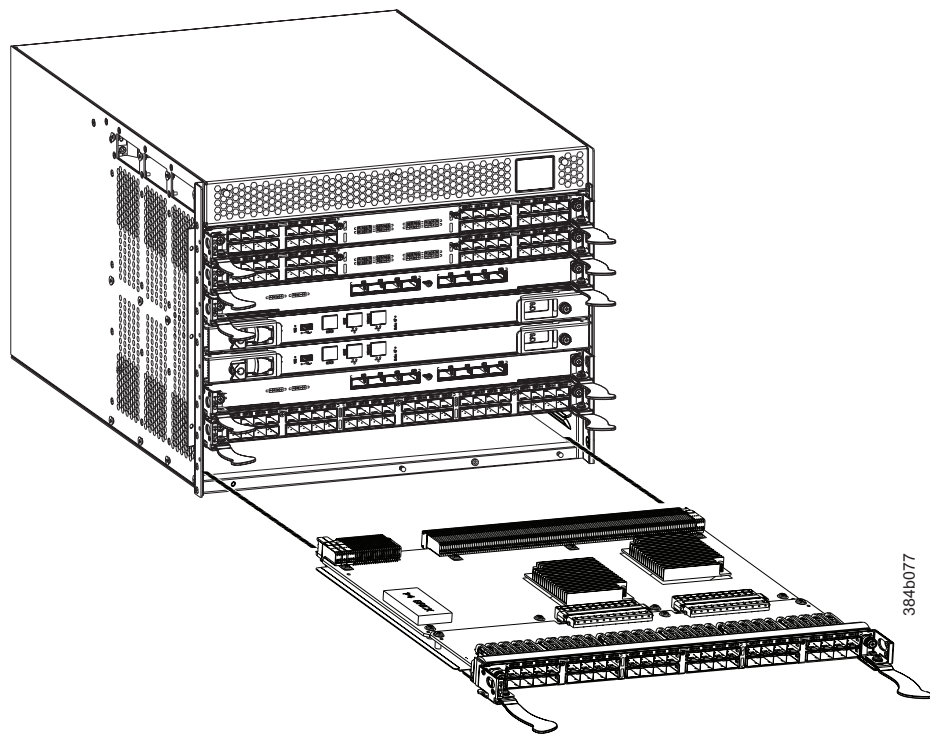

Figure 34. Port, application, and encryption blade removal and installation (FC16-48 port blade shown)
10. Open the ejectors by pulling them toward the center of the blade face. Pull the blade out of the chassis using the ejectors (see Figure 34).